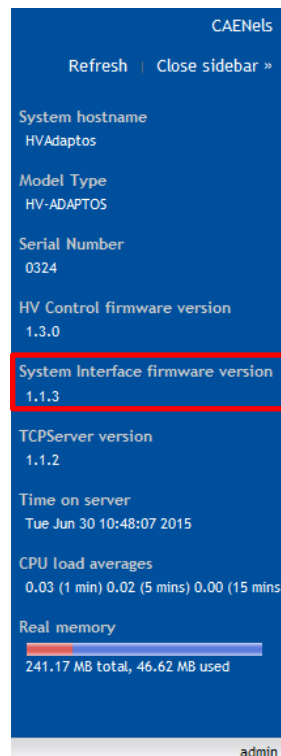

Figure 27: System interface firmware version information
- to check the currently installed version of System interface firmware, open the side bar present on the right side of the *Main menu*, as shown in the following **Figure 27** :